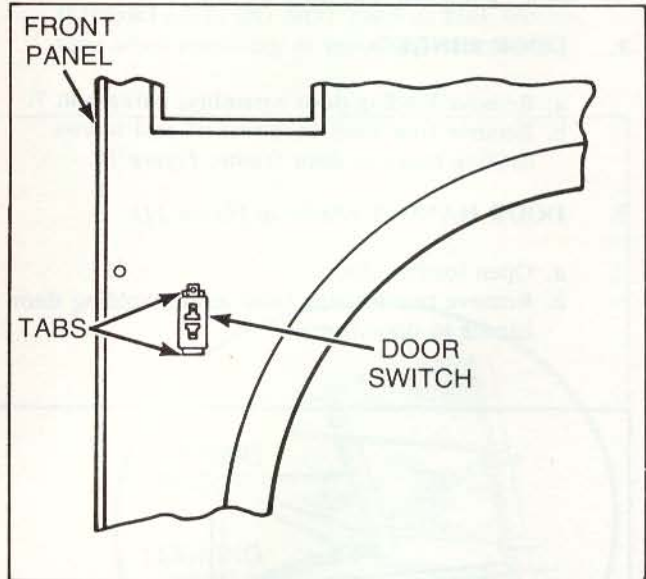

Figure 13
- i. Depress tabs on top and bottom of switch and push switch out through front of panel, *Figure 13*.